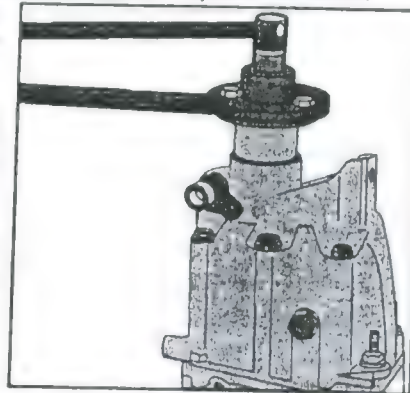

Fig. 3.7 – Remove the rear cover in the manner shown from the gearbox.
- The cover is now removed in the manner shown in Fig. 3.7. Note that the